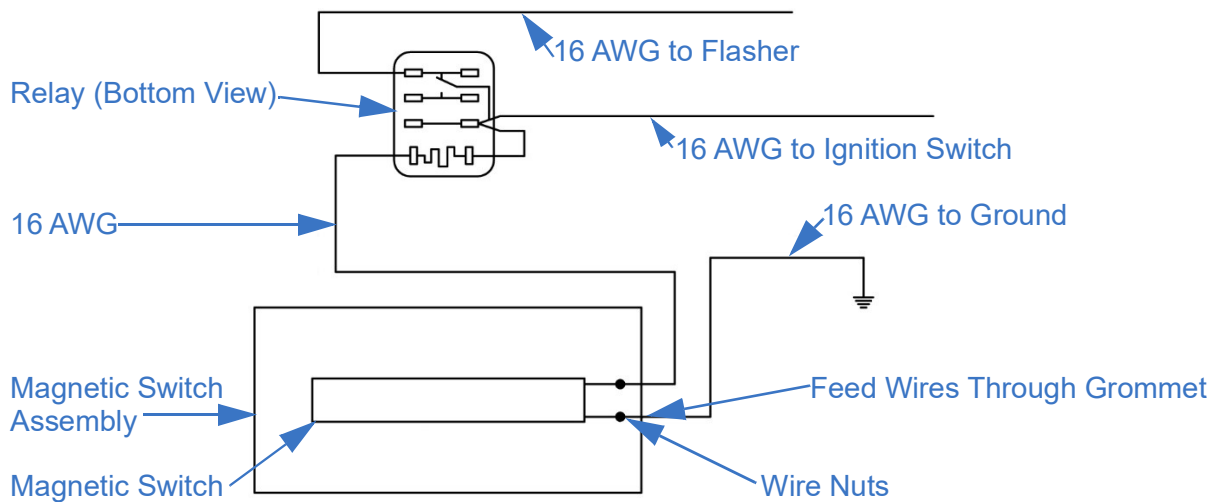

*Figure 5-29 Wire the Magnetic Switch Assembly Kit*
- a. 5-20, 6-27, 7-34, 8-30, 6-25, and 7-30: Use 16 AWG stranded wire (customer-supplied) to connect the flasher and lights to the wires exiting the Magnetic Switch Assembly (Figure 5-29).